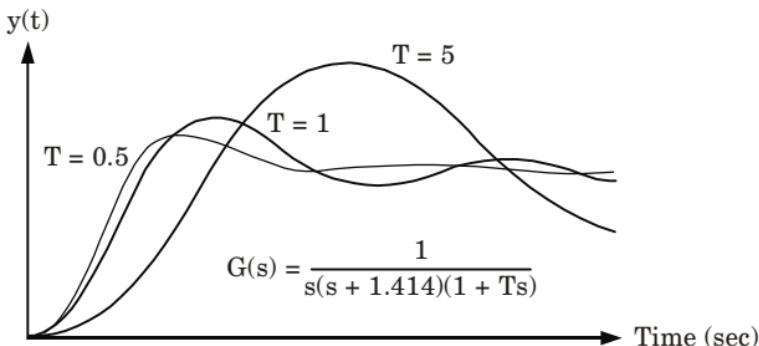

Fig. 18. Unit-step responses of a third-order system with a forward-path transfer function $G(s)$.
4. The unit-step responses of Fig. 18 show that for larger values of T , $T = 1$ and $T = 5$, the following relations are observed :